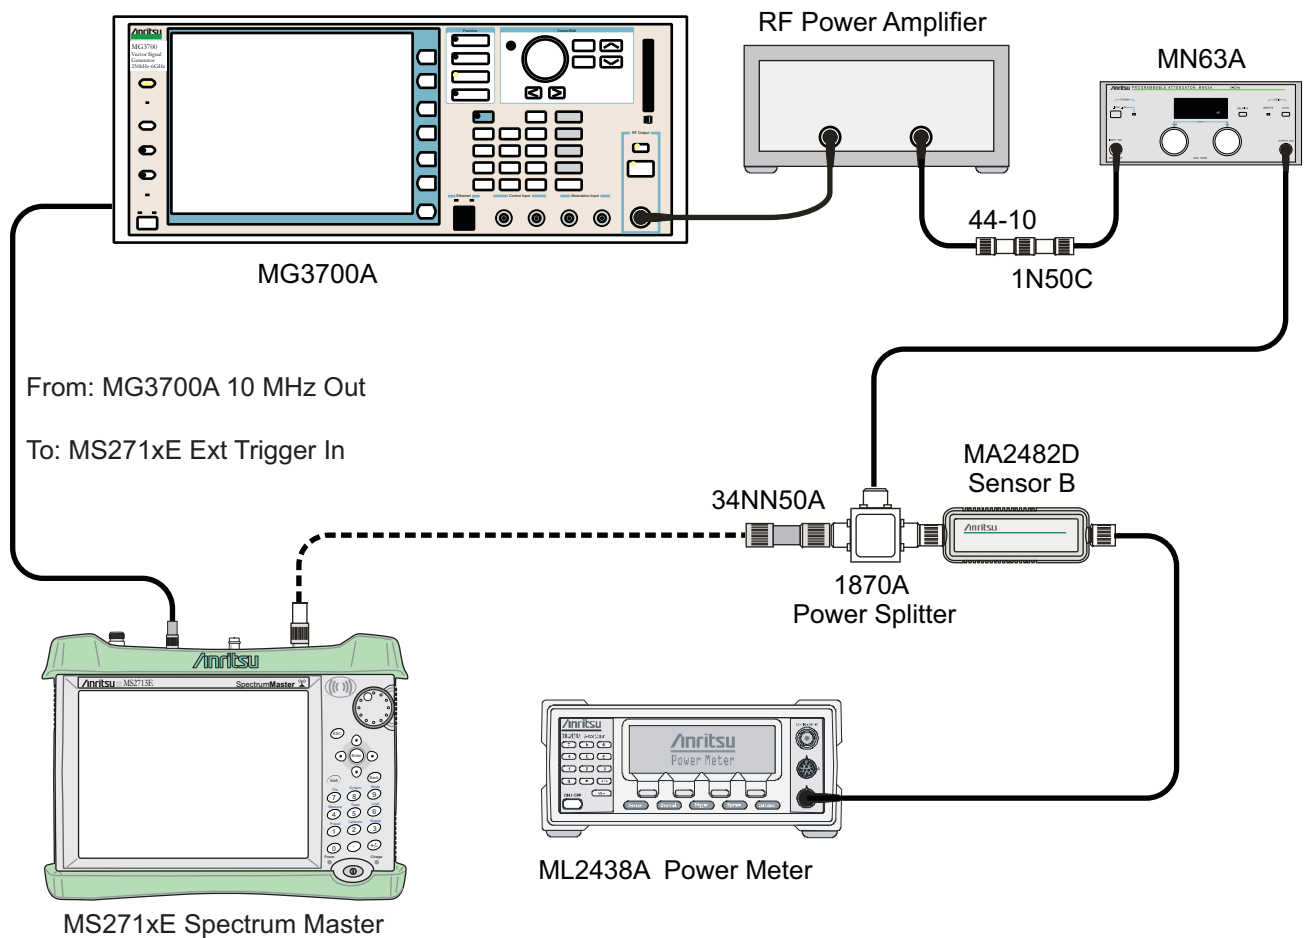

Figure 4-5. ISDB-T SFN Level Accuracy and 1 dB Compression Level Post-test Setup
26. Remove Sensor A from the Power Splitter and then connect the Power Splitter to the MS271xE Spectrum Analyzer RF In with an N male-to-N male adapter as shown in Figure 4-5 on page 4-23.
13. Remove Sensor A from the splitter, and connect the MS271xE RF In to the open end of the splitter using an adapter as shown in Figure 4-5.
42. Remove Sensor A from the splitter and connect the MS271xE RF In to the open end of the splitter using an adapter as shown in Figure 4-5 on page 4-23.
51. Remove Sensor A from the splitter and connect the MS271xE RF In to the open end of the splitter using an adapter as shown in Figure 4-5 on page 4-23.